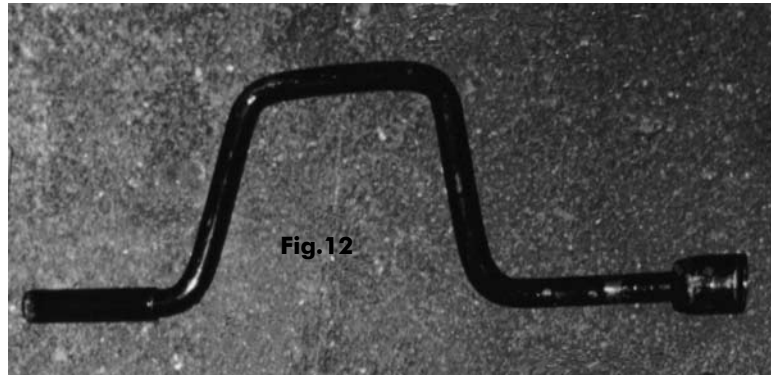

Fig.12
that is Part No. 20E-17035, the 'Brace (wheel nut)'. This is the item (Fig.12) which is seen on the extreme right of the picture of Tony Eldridge's tool kit (Fig. 2). It was replaced by Part No. 'CE-17035', the 'Brace (jack and wheel nut)', in tool kits supplied to all cars from 1937, as it was also used in conjunction with the "Speedy"-type jack, Part. No. E93A-17080 (it was the means of raising and lowering the jack). 'CE-17035' and 'E93A-17035' appear to be one and the same thing, as friends with later cars have an identical wheel brace to Tony's. The brace was always painted black and usually did not bear any identification marks. The handle at one end revolved around the stem and the socket at the opposite end fitted either the wheel nut or the nut on top of the "Speedy"-type jack.
12) Image Fig.12 Wheel brace.jpg
Caption:- " **Fig.12.** "